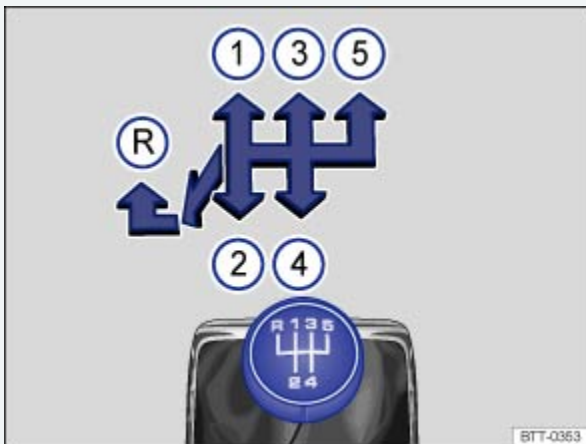
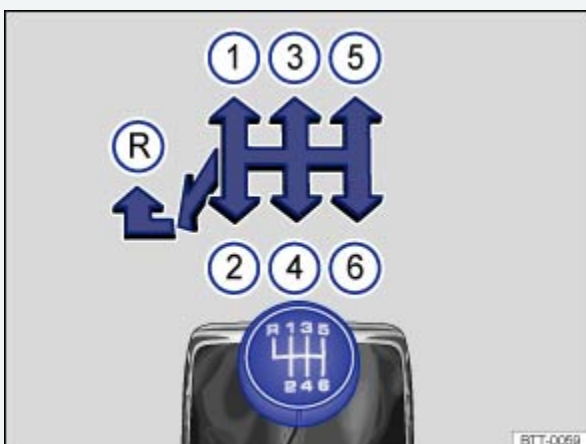

Fig. 139 Gearshift pattern of a 5-speed manual transmission.
Fig. 140 Gearshift pattern of a 6-speed manual transmission.
- Move the shift lever to the left and then push forward into the reverse gear position ⇒ Fig. 139® or ⇒ Fig. 140®.